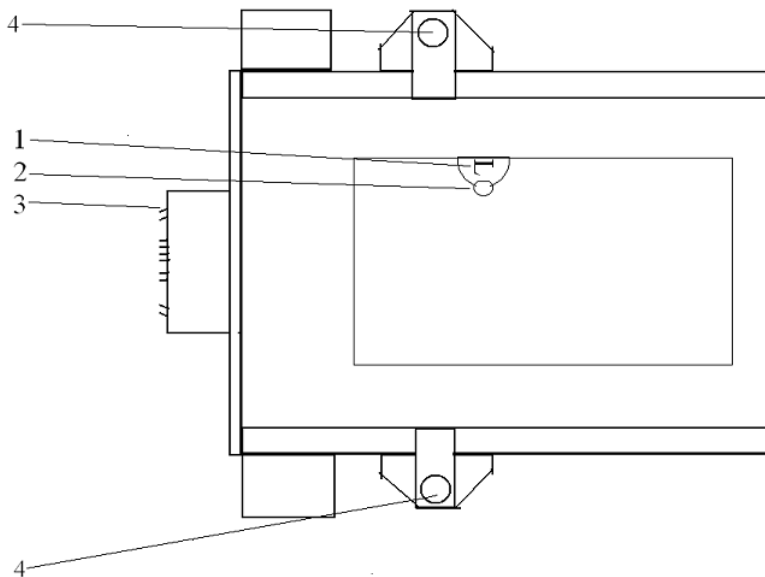

Figure 1 - receiver
2.) Place a fairly powerful magnet over the receiver "learn" area (see Figure 1 for location) and hold it there. The LED should illuminate and go to a constant RED state. (if you can't get a response from the LED, try placing the magnet on the back or to the side of the unit's enclosure in the same general area) Once the LED is on, continue to hold the magnet by the area until the RED LED goes out. (approximately 15 seconds) Once the LED goes out, the receiver's memory is cleared
- 4.) Place a fairly powerful magnet over the receiver “learn” area (see Figure 1 for location) for a brief moment (3 seconds), and then remove it.
- 8.) During standard operation, to confirm the receiver is picking up a signal from the transmitter, the receiver will respond to transmitter inputs and illuminate the receiver status LED (see Figure 1).